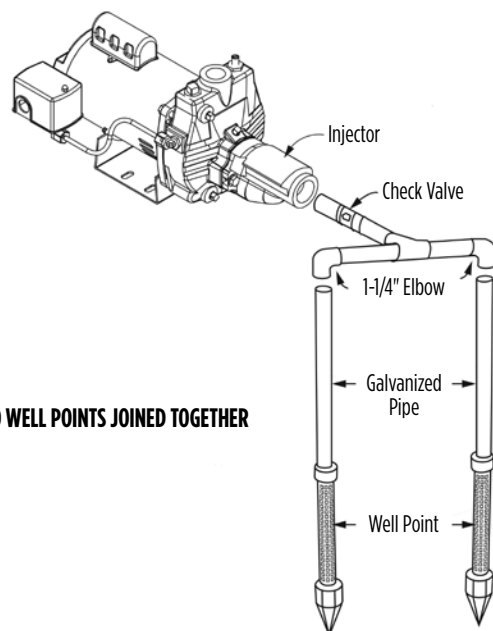

Fig. 8 - TWO WELL POINTS JOINED TOGETHER
4. Drive the well point into the ground according to the instructions that come with the well point. It must be deep enough to bore through the water bearing formation below the water table but should not exceed 25 ft (7.6 m) in depth. An individual well point may not supply the amount of water needed. Sometimes it is necessary to use more than one well point to increase the water supply. The two separate well points can be joined together using additional piping and a cross joint (see Fig. 8).